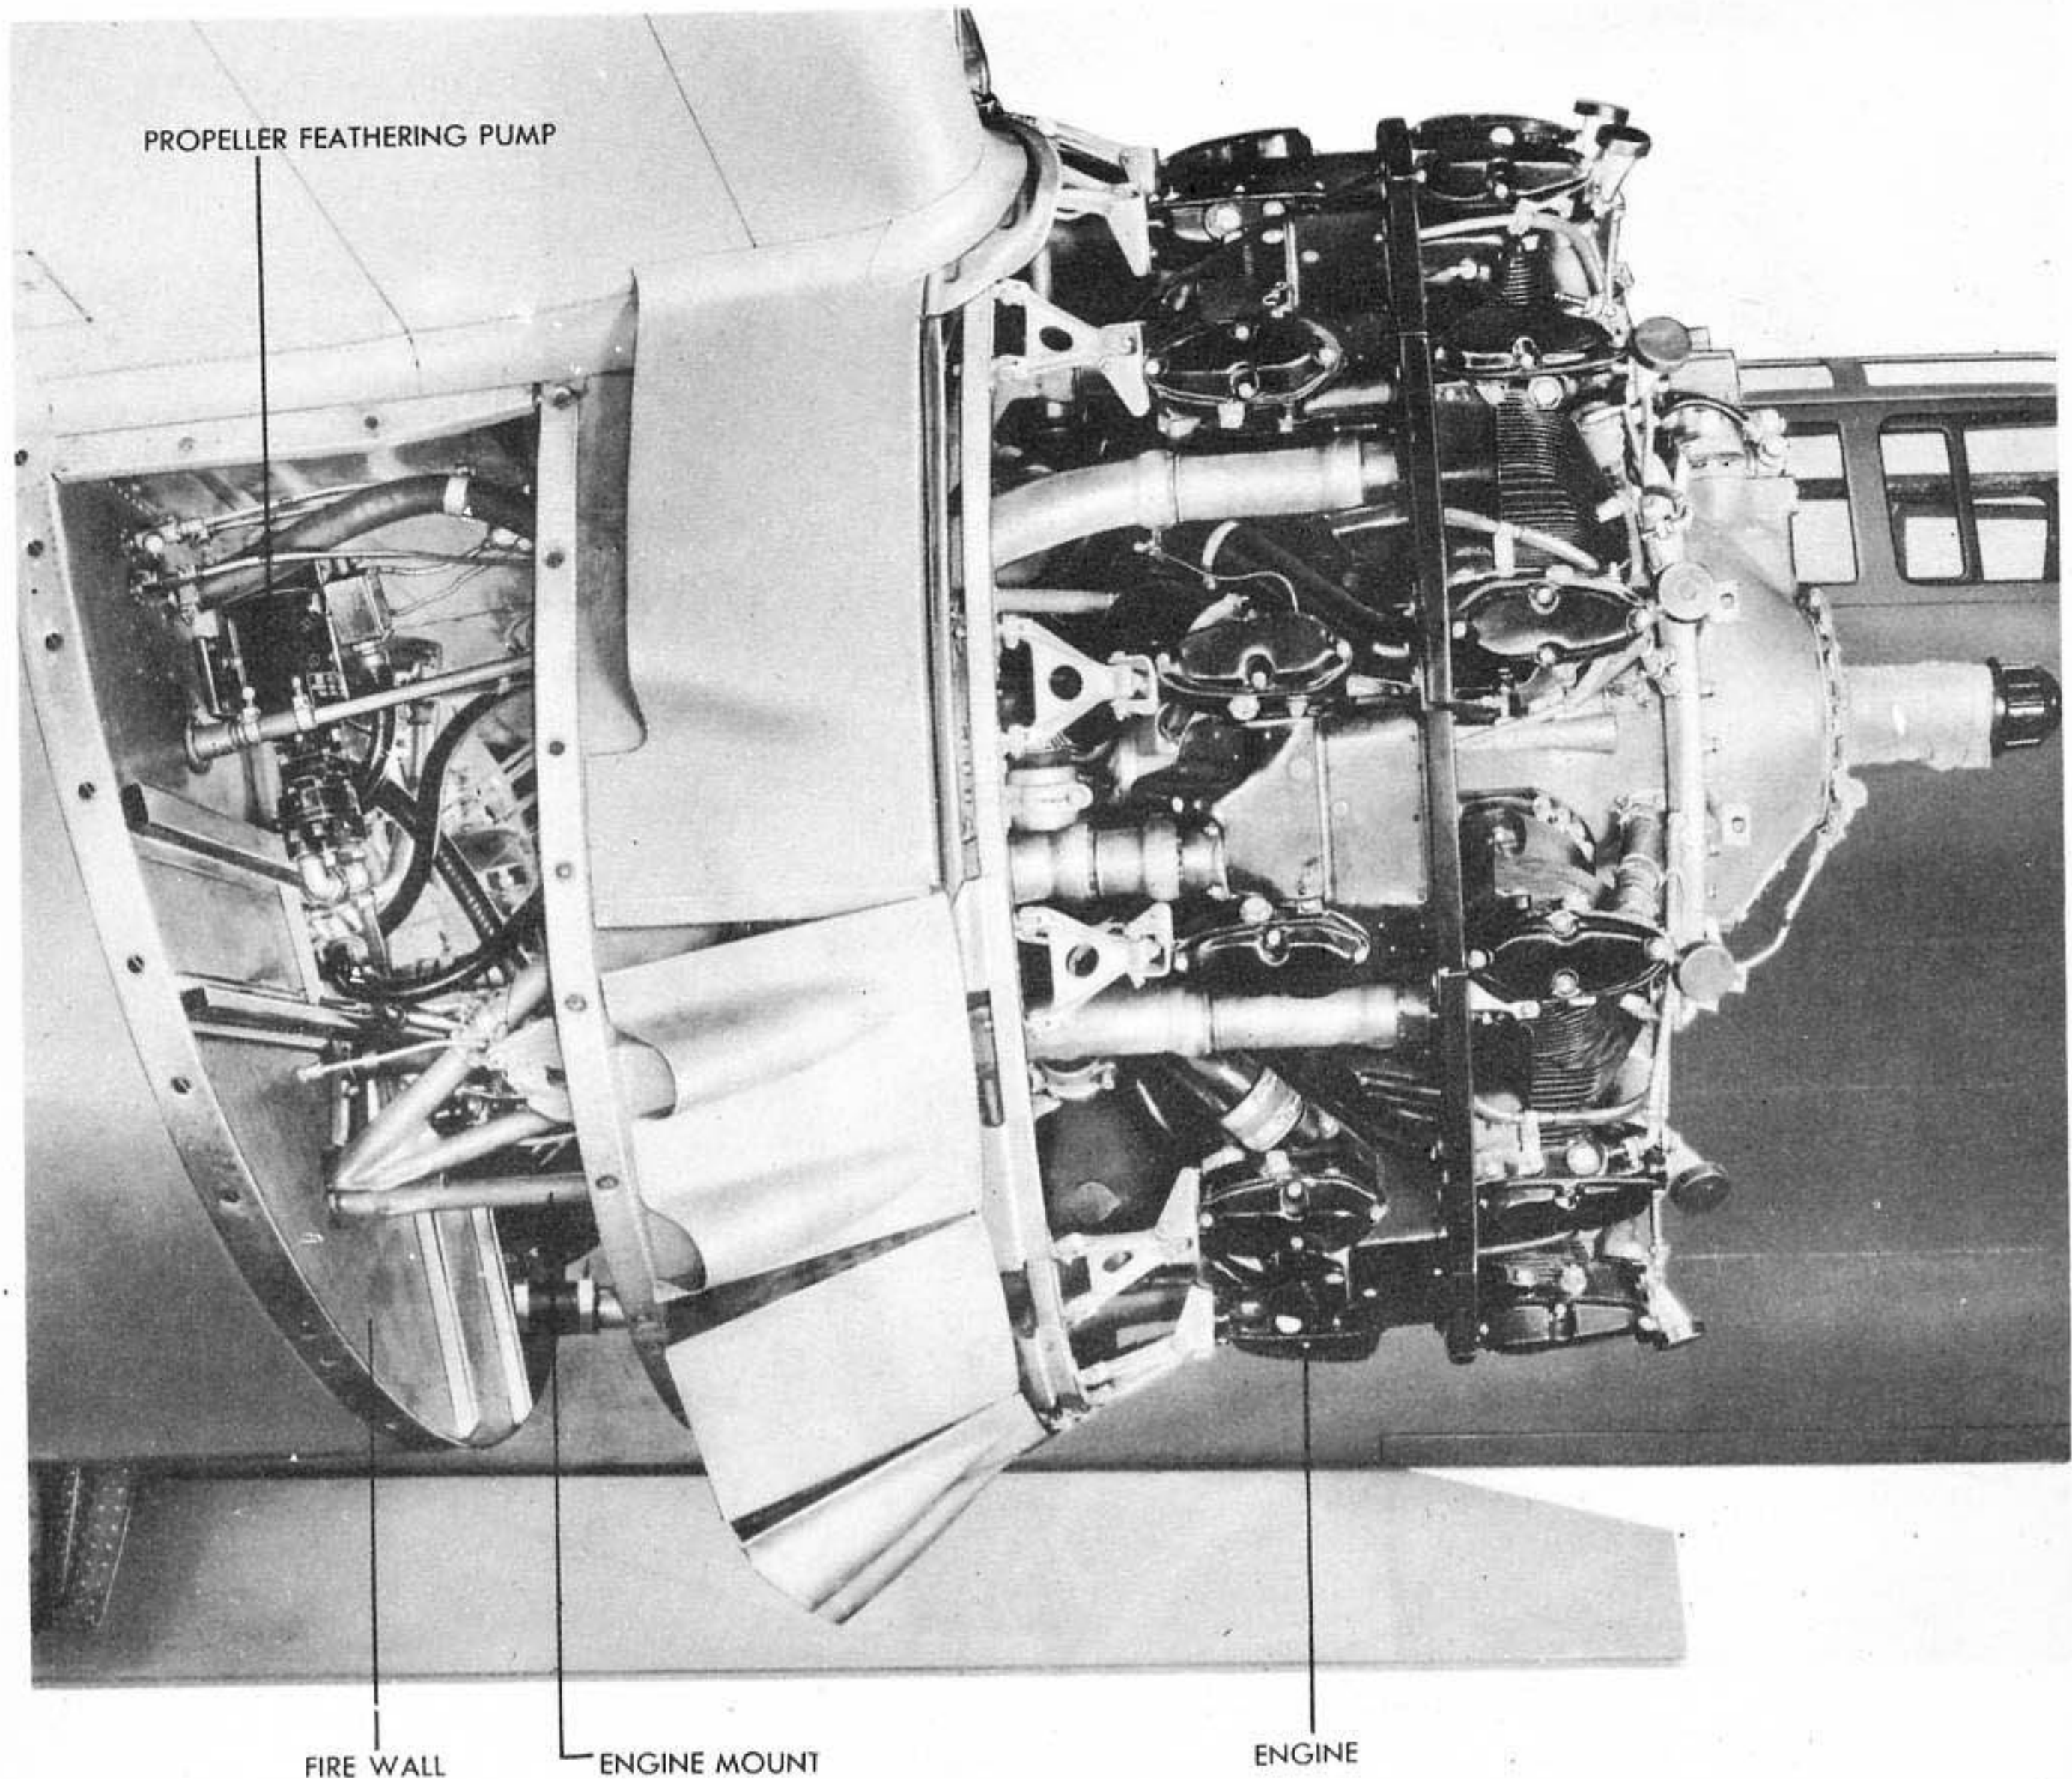

Figure 90 - COMPLETE ENGINE SECTION
(2) COMPLETE ENGINE SECTION. (See figure 90.) - The complete engine section of the nacelle is composed of the engine and the engine mount and everything attached to them except the propeller and anti-drag ring. The nacelle is designed so that the complete engine section forward of the fire wall, including fuel and oil lines, may be handled as a quickly detachable unit.
(3) ACCESSORIES. - Engine accessories are treated under the paragraphs of this section dealing with the system of which they are part. For example, magnetos and generator are covered in paragraph 17, Electrical System. The starter is treated in paragraph 11, Starting System. The carburetor and fuel pump are covered in paragraph 13, Fuel System. The oil pump is treated in paragraph 12, Oil System; the vacuum pump in paragraph 14, Instruments; and the hydraulic pump in paragraph 16, Hydraulic System.